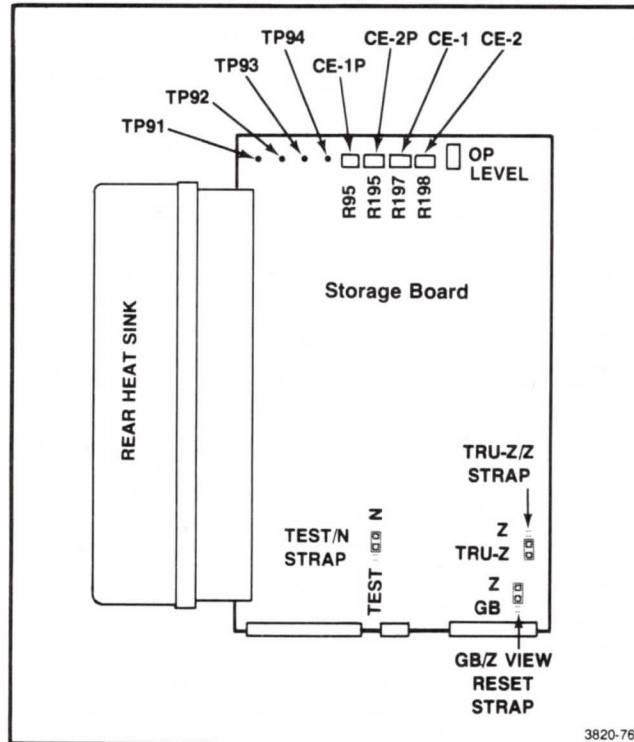

Figure 10-11. Storage Board Straps, Test Points, and Adjustments.
11. On the Storage board, make sure that the VIEW RESET jumper is set to the GB (lower) position, and also that the Z-TRU-Z jumper is set to the TRU-Z (lower) position. Set the NORMAL/TEST jumper to the "N" (top) position. For the location of these straps, the test points, and adjustments, see Figure 10-11.
All the test points and adjustments on the Storage board are in a line located on the top edge of the Storage board. For the location of these points, see Figure 10-11.